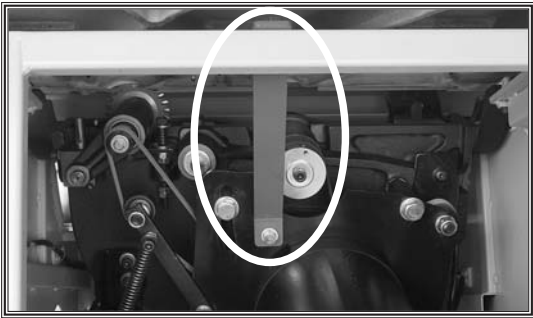

Figure 33. Motor shipping brace.
30. Open the cabinet door and remove the motor shipping brace shown in **Figure 33**.